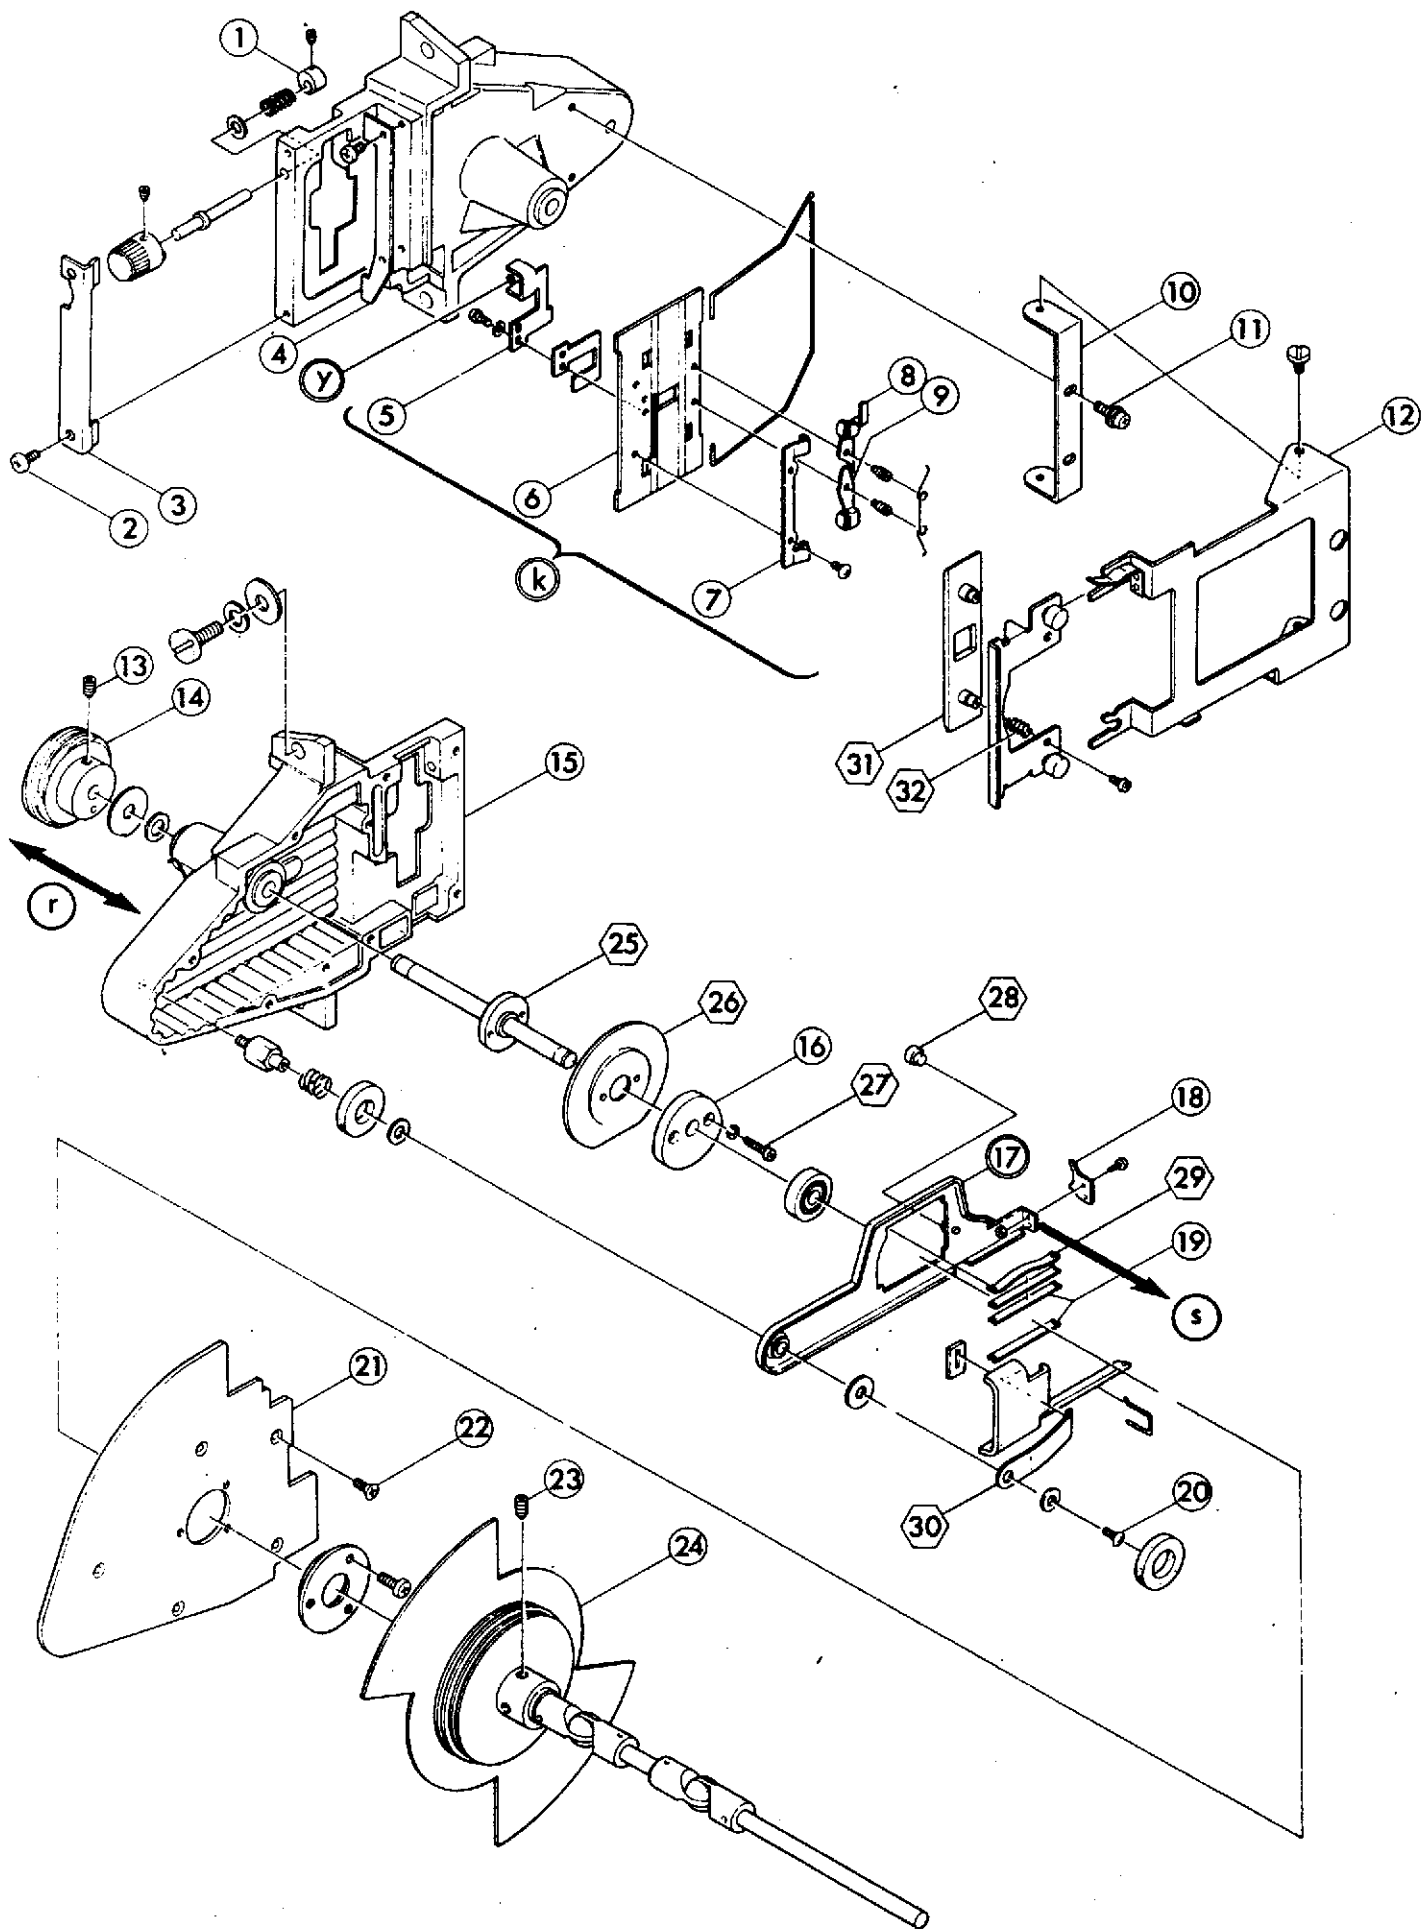

Fig. 12
- (4) Measure the tension to (s) direction in Fig. 12 at the attaching position of Fig. 12-18 by a tension guage.
- (6) Adjust the attaching position of Fig. 12-5 or bend (y) in Fig. 12 so that momentums of a picture in the both directions may be equal. Then Fig. 12-1 should not only closely contact with (y) in Fig. 12 but also smoothly move.
Adjust Fig.12-18 to keep correct position against film perforation. If Fig.12-18 is damaged, replace it.	W Fig. 12